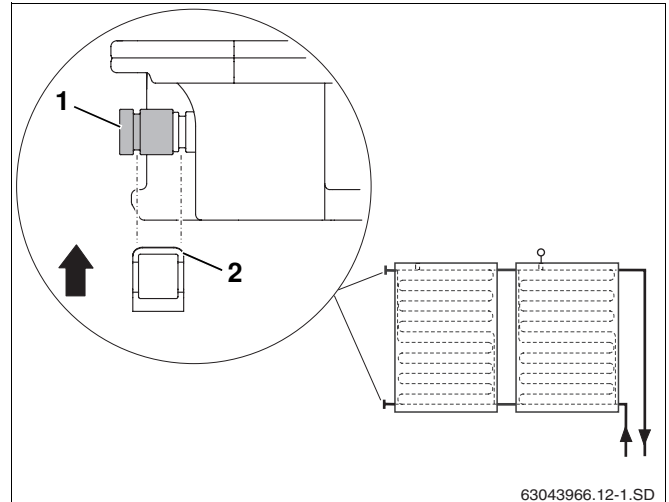

Fig. 20 Securing end cap with bracket
- Push end cap with the O-rings (Fig. 20, **Item 1**) onto the collector connection.
- Push bracket (Fig. 20, **Item 2**) over the end cap and collector connection to secure the connection.
- Secure each locking cap with a bracket (Fig. 20, **Item 1**).